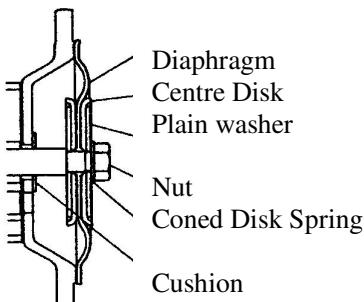

Fig. 5.9
- Draw the centre disk to one side (exclude B□H, B□S type Fig. 5.9).
- Draw the centre disk to the opposite side, then turn the diaphragm over (exclude B□H, B□S type cf. Fig.5.9).